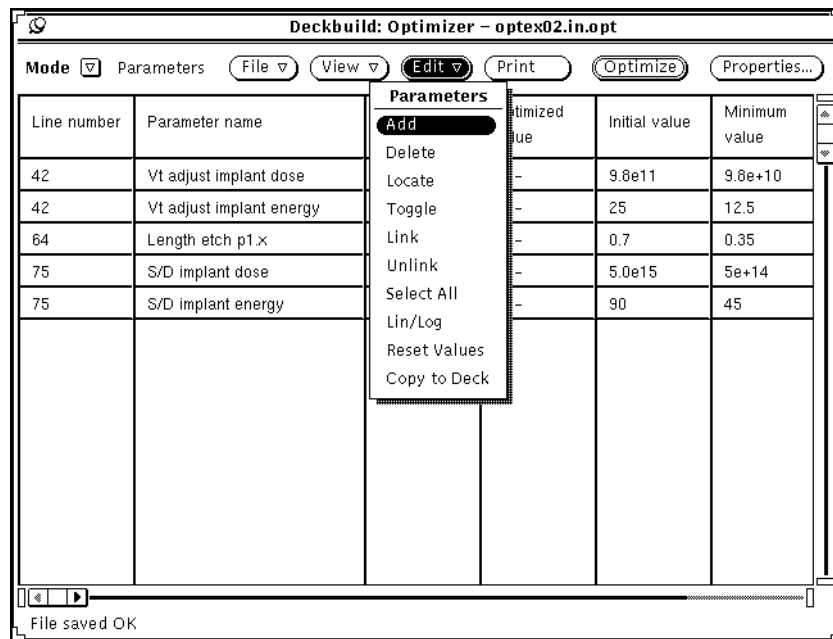

Figure 6-4: Parameter Edit Menu
3. Choose **Add** from the **Edit** pull-down menu. To do this, move the pointer over the **Edit** button, click on MENU and select **Add** (Figure 6-4).